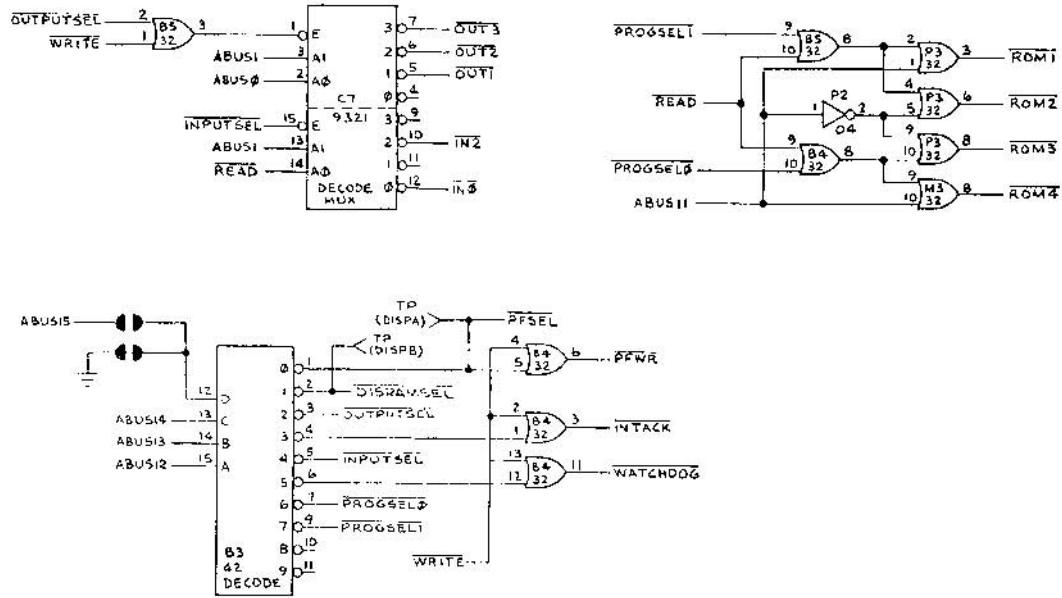

Figure 4-9 Address Decoding Circuitry
This base frequency is then divided down by binary counters P5, P6 and N6. These provide the various horizontal synchronization frequencies (1H thru 256H). The final output of this horizontal counter chain is 256H (at pin 13 of N6). This signal is, in effect, a division of the base frequency by 768, or 15,750 Hz. The period of 256H is about 63.5 microseconds. The 256H signal, as well as other horizontal signals, are used to generate the HBLANK and HSYNC timing pulses at flip-flop N5. See Figure 4-9 for the relative timing of these waveforms.
The HSYNC signal is used to clock two stages of vertical sync counters M5 and M6. The HSYNC signal is divided down by these counters to form the various vertical synchronization frequencies (1V thru 128V). These two stages are used, in effect, to do a divide by 262 of the HSYNC signal. This results in the final output of these counters (128V at pin 11 of M6) to be at a frequency of 60Hz (the period is approximately 16.6 milliseconds). The various vertical frequencies address a sync PROM (L5) whose data is latched at the output of L6. The outputs of this latch are the various polarities and phases of the vertical timing frequencies used to synchronize the TV monitor display. See Figure 4-9 for the relative timing of these waveforms.
4. Address decoding circuitry B3, C7 and associated gates (see Figure 4-9).
(See Figure 4-9)